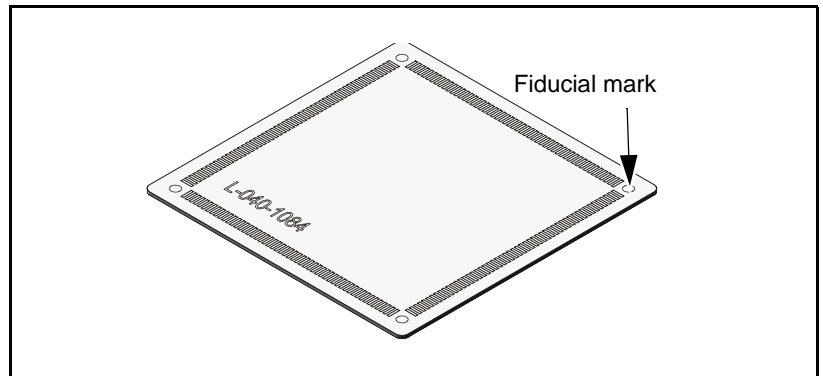

Figure 4-18. Calibration component (L-040-1084).
- Calibration component (L-040-1084), see Figure 4-18.